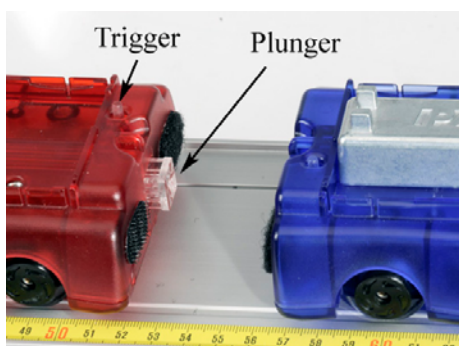

Figure 3: Cart Explosion
23. Position the two carts so that they have the Velcro ends facing each other. Depress the plunger on the red cart to position #3 as shown in Figure 3.
25. Start recording and tap the trigger release (see Fig. 3) to launch the carts.